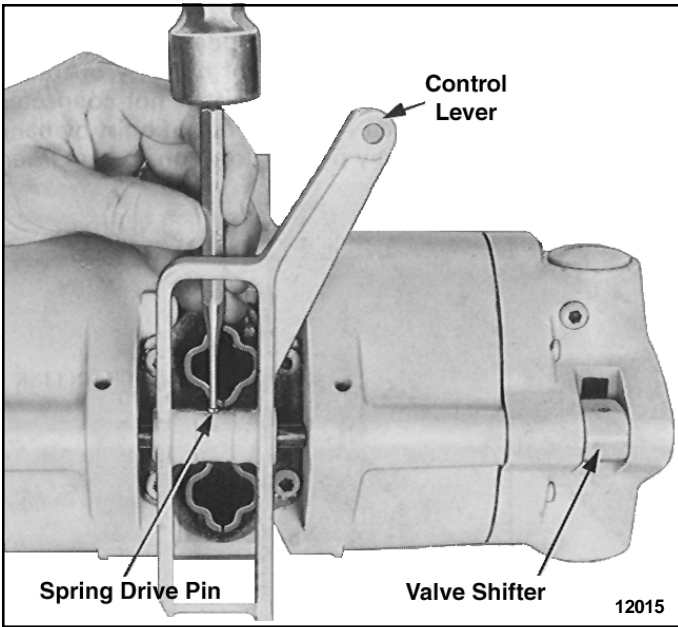
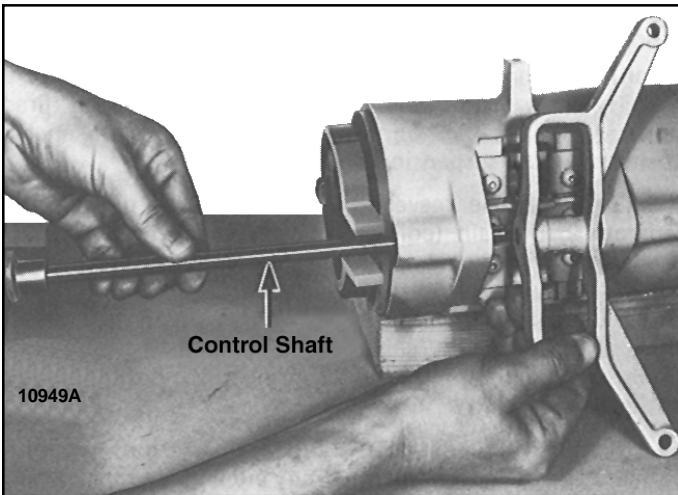

Figure 7-2. Driving Spring Pin from Control Lever and Shaft.
Figure 7-3. Removing Control Shaft.
(1) On pendant throttle control models, for convenience, disconnect control hoses from air cylinders, open strain cable "S" hook at eye bolt on throttle housing and remove pendant throttle control assembly from hoist. Refer to paragraph 7-6 for disassembly and reassembly of pendant throttle control.
(2) Remove two screws securing brake housing cover to frame and lift off cover.
(3) To remove control lever and shaft, drive spring pins from control lever (Figure 7-2) and valve shifter at end of shaft using a drift punch. Lightly tap valve shifter end of shaft and withdraw shaft by pulling on brake cam end (Figure 7-3). As shaft is withdrawn, valve shifter and control lever will fall free.